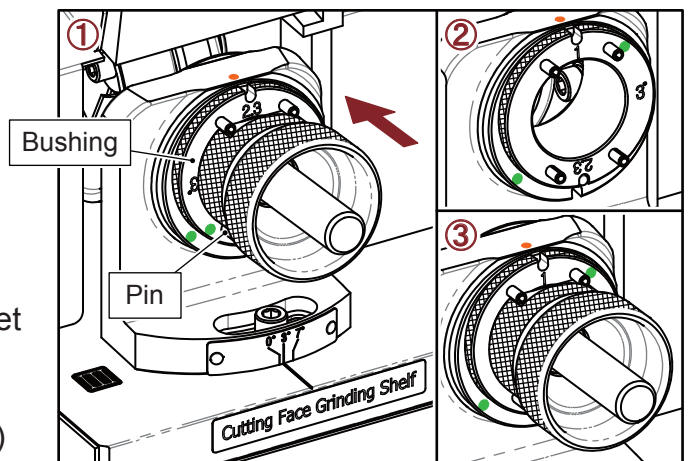

Fig. 5-13
2) 2 Flute Cutting Face Grinding (III) (Fig. 5-13)
① Insert the chuck set into the bushing on the Shelf (III), align Slot No.1 to the two pins where marked as No.1, push the chuck set gently until the grinding noise stops.
② Take the chuck set out and turn the bushing to No.(2·3), align No.(2·3) to the pin on the shelf, then insert it to the end.
③ Insert the chuck set into the bushing, align Slot No.2 to the two pins where marked as No.(2·3), push the chuck set gently until the grinding noise stops.